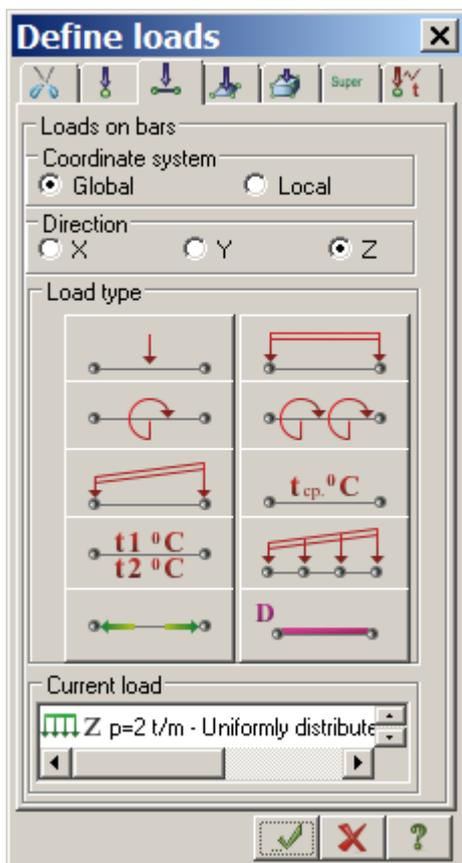

Figure 1.13 Define loads dialog box
To define loads on nodes and elements, on the **Create and edit** ribbon tab, select the **Loads** panel and click appropriate command from the **Loads on nodes and elements** drop-down list. In the **Define loads** dialog box (see Fig.1.13) specify appropriate data.
- ⇒ In the **Define loads** dialog box (see Fig.1.13), specify **Global** coordinate system and direction along the **Z**-axis (default parameters).